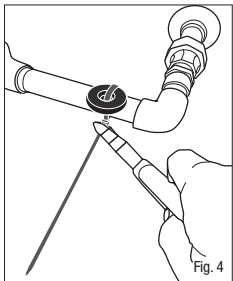

Fig. 4
- Cut the excess cable tie to within 2-4 mm of the head. Turn down the cut portion to minimize potential contact with the cut edge of the cable tie (See Fig. 4).